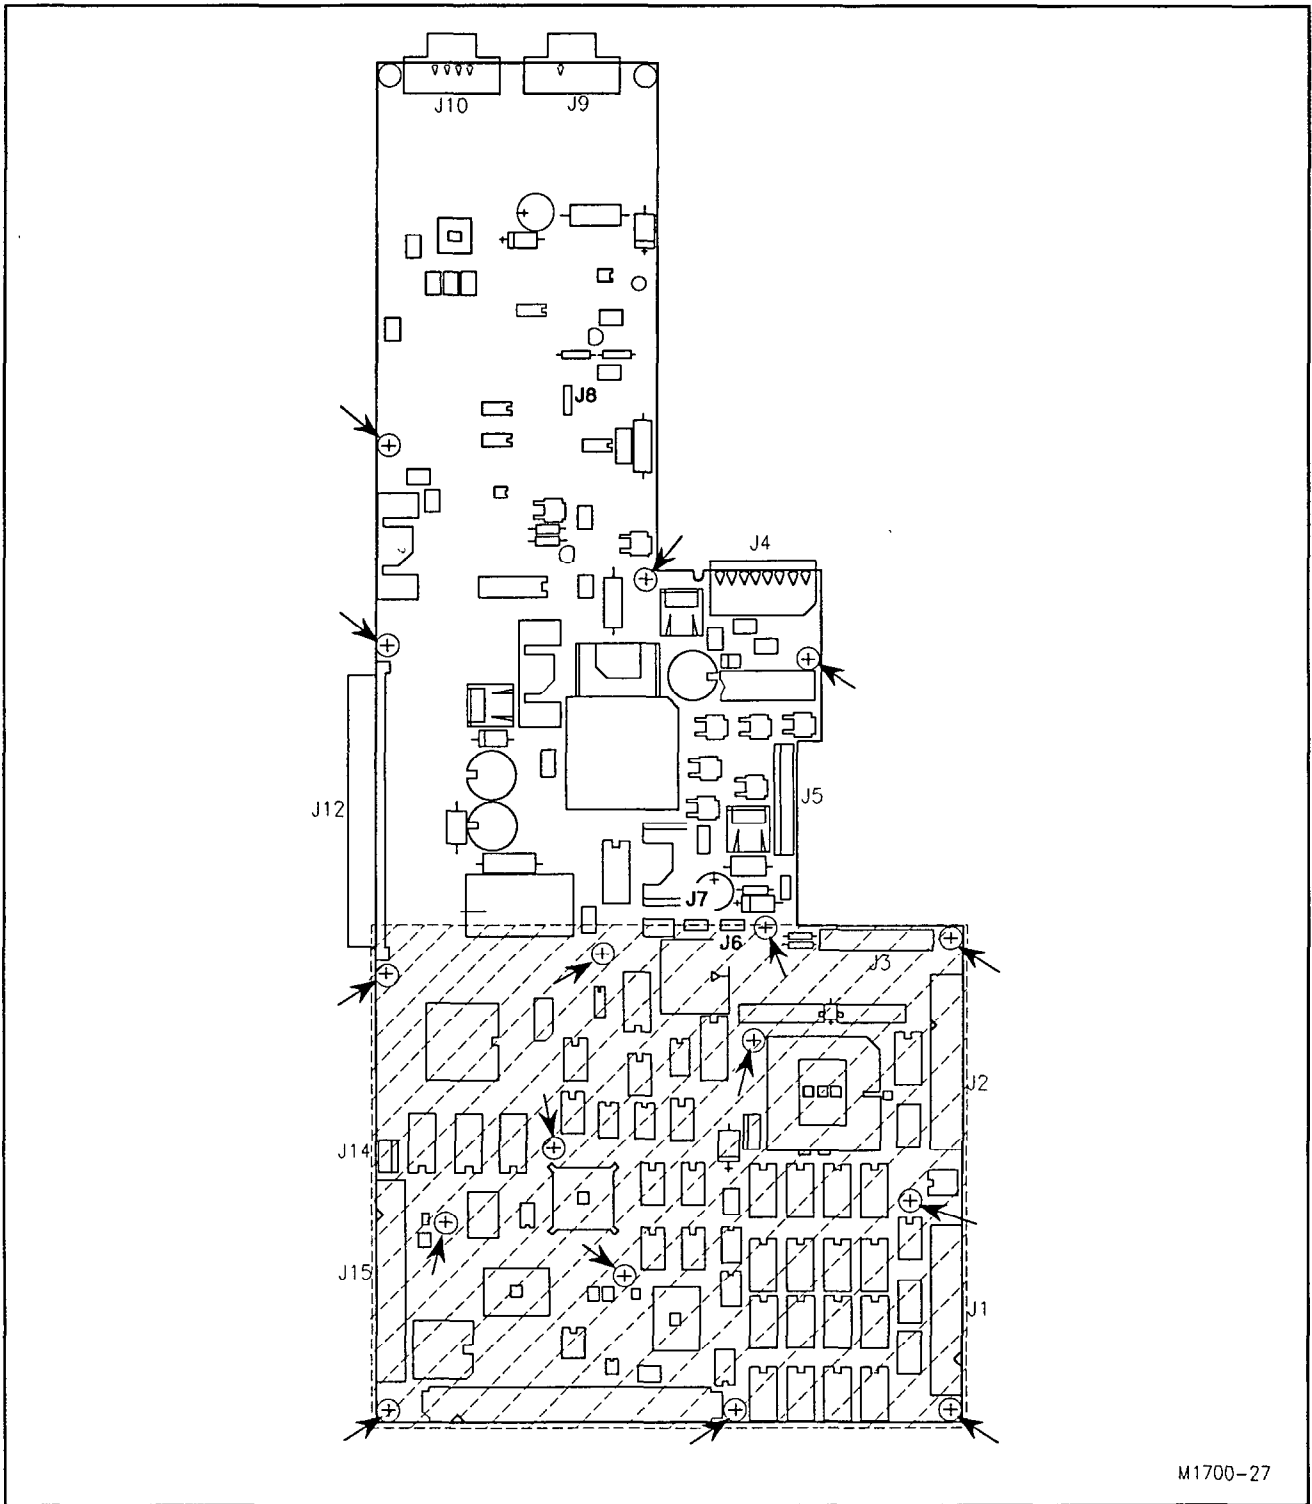

Figure 7-20. Screw and Connector Locations on the CPU Assembly.
6. Disconnect the two rectifier cable spade lugs (J6 and J7) and the two disk drive cables (J14 and J15). (See Figure 7-20 for jumper locations.)
8. Remove the board mounting screws (shown in Figure 7-20). Also remove the jackposts that hold the serial and patient module connectors to the rear panel.